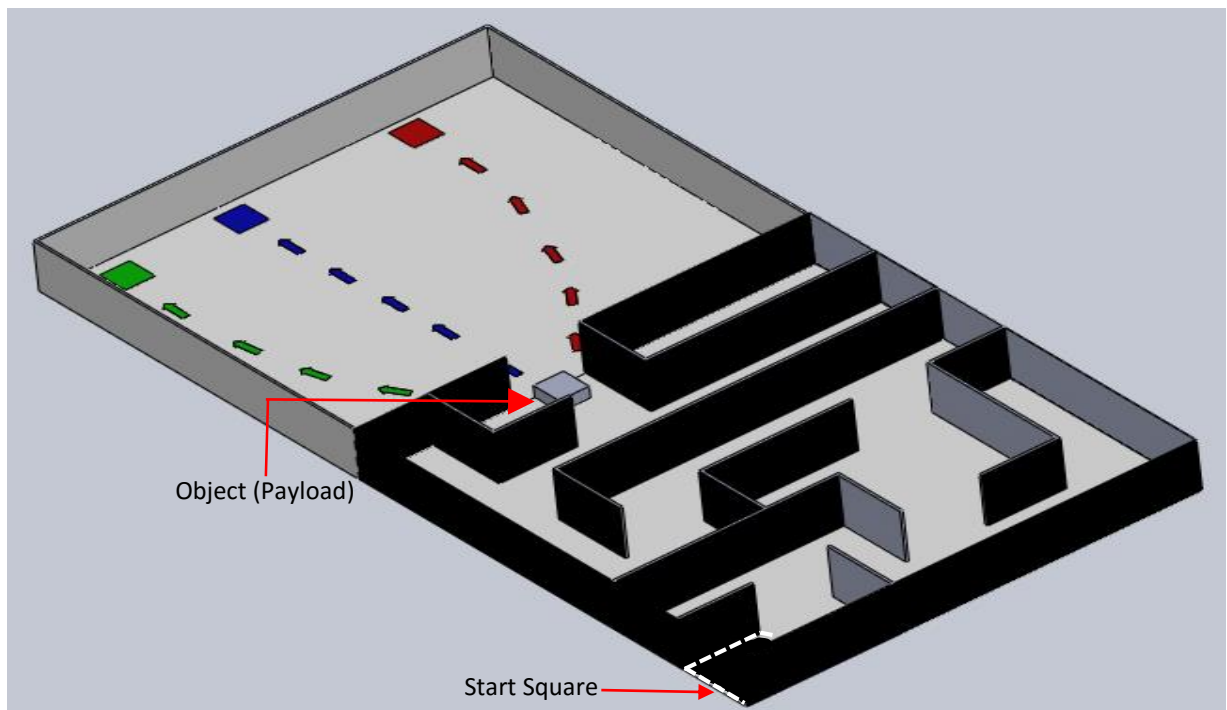

Figure 2-Model of the Play Ground (Right View)
2. The gap between two parallel walls and any opening in the navigable paths within the maze will be 30cm (1 Foot). The entire maze area will be 6 Feet ×6 Feet (36 Ft²). Also, note that the gaps and openings within the maze may have a tolerance up to 5% (Figure 2).